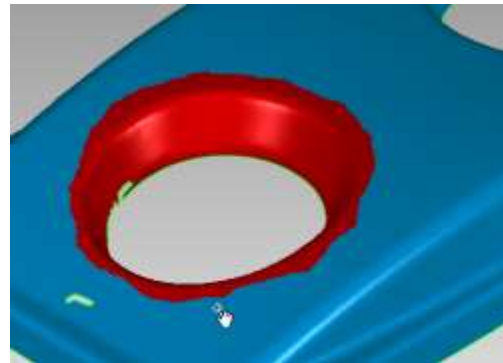

Figure 12
22. When the boundary is closed, it should appear as shown in **Figure 12** with the interior area selected (red).